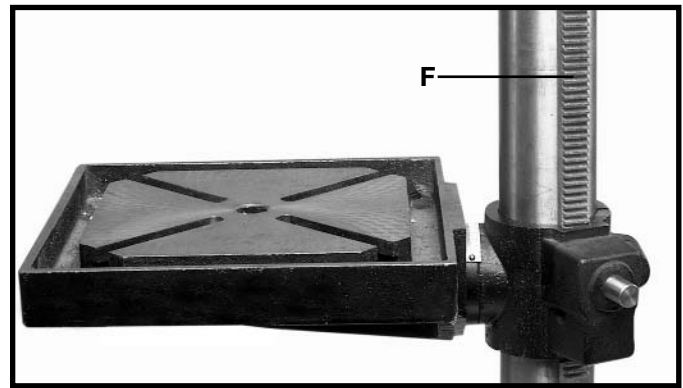
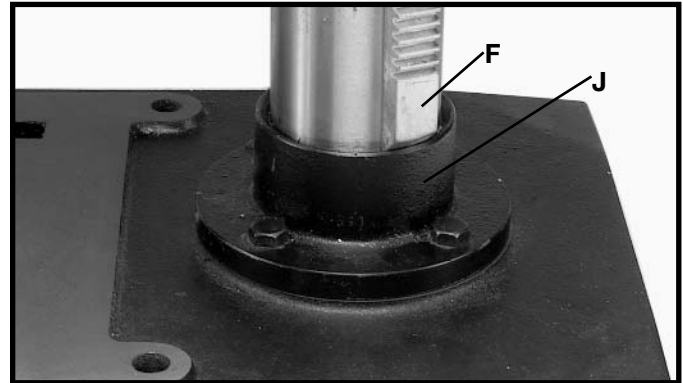

Fig. 7
Fig. 8
4. Slide raising rack (F) Fig. 7, table and table bracket onto drill press column, as shown. Make sure bottom of raising rack (F) Fig. 8, is inside the flange (J) on drill press base.